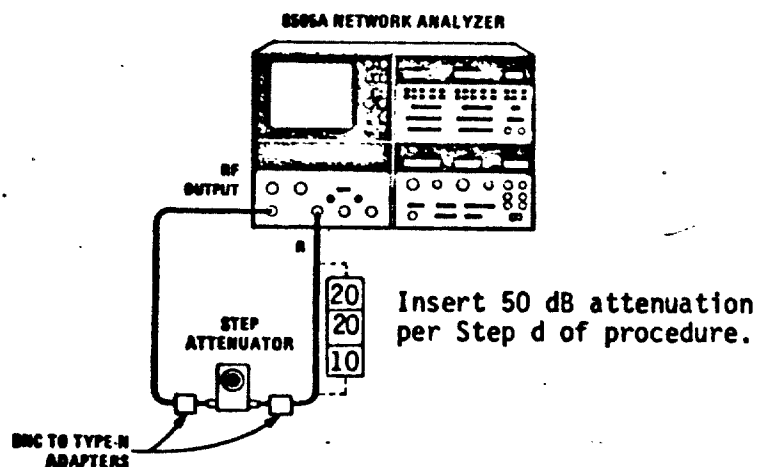

Figure A4-11. Dynamic Range Test Setup
- b. Connect equipment as shown in Figure A4-11.
- c. Connect calibrated attenuator between RF output and input "R", and set to 30 dB. Press Channel 1 DISPLAY MKR, then ZRO pushbuttons until trace settles. Press CHAN 1 DISPLAY REF pushbutton. As attenuator is stepped down, offset -10 dB/step to bring trace back to reference line within limits shown in following table. (It may be necessary to change CHAN 1 SCALE/DIV to less sensitivity settings if trace is off screen.) When step attenuator reaches 60 dB, note trace deviation from center line on CRT. Insert attenuators as shown in Figure A4-11. Set step attenuator to 10 dB. Adjust output level of network analyzer so that trace is in same position as noted above. Continue checking as in Step C.